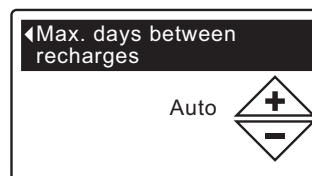

FIG. 80
- 8b. **Maximum days between recharges:** Press the UP (▲) or DOWN (▼) buttons to change the number of days (See Figure 80). The feature can be set from 1 to 15 days. Setting the number of days below 1 turns the feature off and defaults to automatic control of recharging.